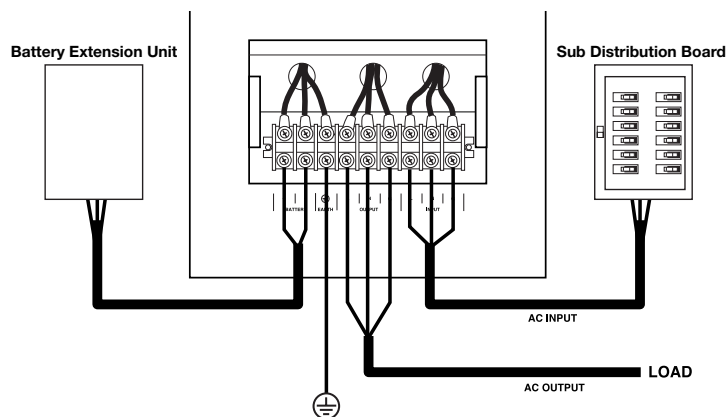

Figure 3
- 4.7 For NBP 0811 and NBP 1011; connect the cable from INPUT TERMINAL to utility power source. Then, connect the cable from OUTPUT TERMINAL to loads as shown in Figure 3. Please refer to the cable sizing in 4.4
- 4.8 For NBP 0811 and NBP 1011; connect the cable from BATTERY TERMINAL to BATTERY unit. The wire from positive pole connects to positive (+) battery terminal of BATTERY unit. The wire from negative (-) pole connects to negative battery terminal of BATTERY unit as shown in Figure 3. Please refer to the cable sizing in 4.4 .